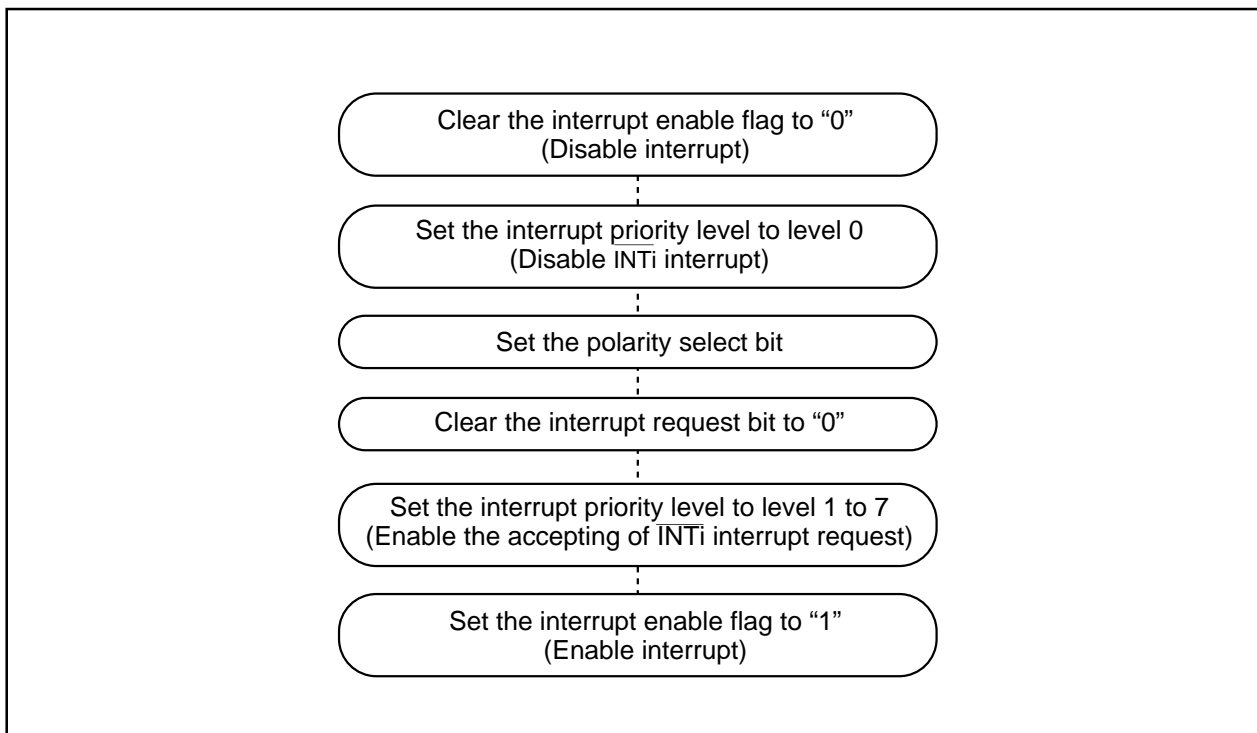

Figure 4.7.1. Switching condition of \overline{INT} interrupt request
(2) Setting the stack pointer
(3) External interrupt
- When the polarity of the $\overline{INT_0}$ and $\overline{INT_1}$ pins is changed, the interrupt request bit is sometimes set to "1". After changing the polarity, set the interrupt request bit to "0". Figure 4.7.1 shows the procedure for changing the \overline{INT} interrupt generate factor.